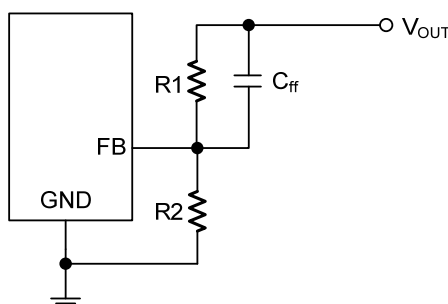

Figure. 1 Output Voltage Setting Circuits
Figure 1 shows the output voltage setting circuit of **UD182013**. The external resistance voltage divider can set the output voltage according to equation (1).